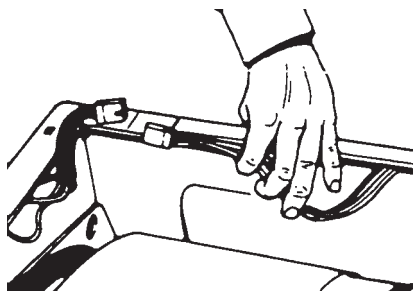

Fig. 4-35
7. Pull wiring harness out of clips inside top side of dryer. Disconnect the wiring harness. (Fig. 4-35)